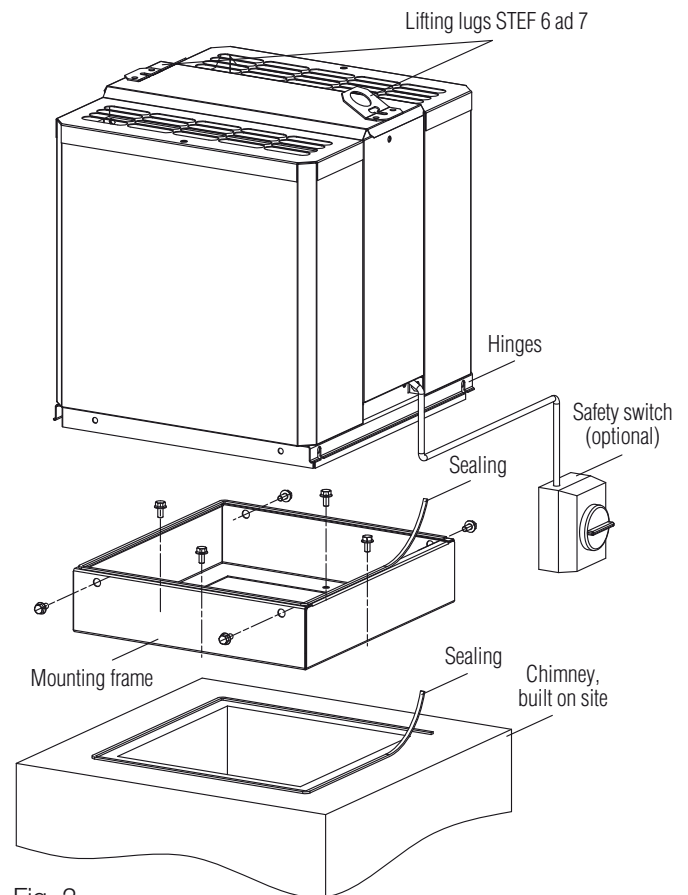

Fig. 2
1. Fit the sealing strip to the chimney as shown in the Figure 2.
3. Fit the sealing strip to the upper edge of the mounting frame as shown in Figure 2.
4. Lift the roof fan onto the mounting frame and secure it as described above in Pos. 3 "To mount the STEF/STOF on the BOGA roof duct". See Figure 2.